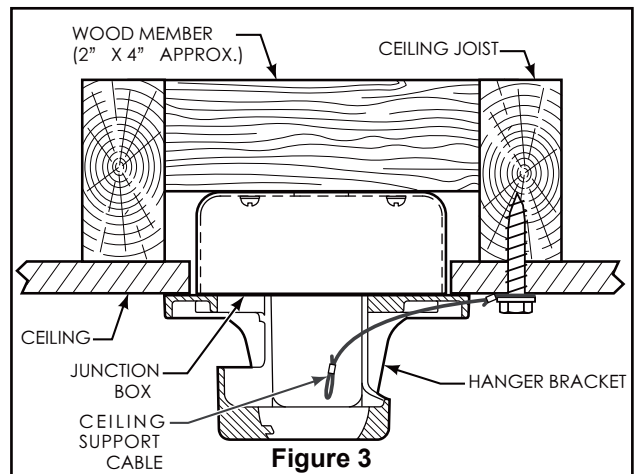

Figure 3
1. Using the $\frac{3}{8}$ " x 2" lag bolt and flat washer, attach safety cable to ceiling joist or wood structural member. The lag bolt will pass through the flat washer, safety cable loop, and into the building structure (Figure 3). You will first drill a $\frac{1}{4}$ " pilot hole into the building structure to prevent splitting or cracking.
NOTE: Ceiling support cable cannot be secured to junction box only, it must be directly secured to ceiling joist or structural member using the $\frac{3}{8}$ " x 2" lag bolt and flat washer. (Figure 3)